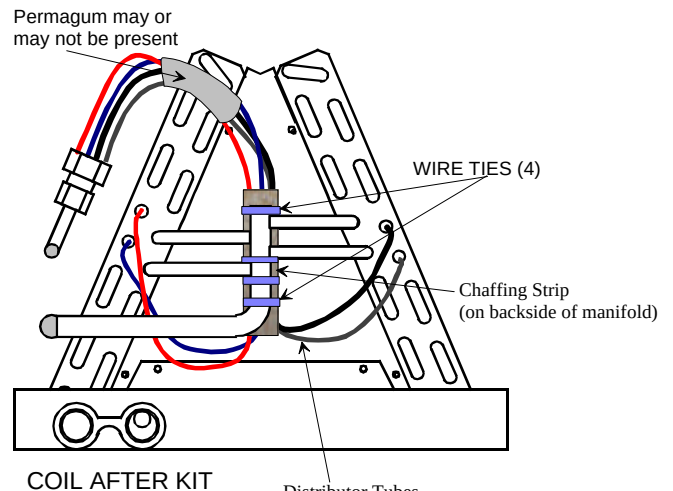

Figure 1
3. Place chaffing strip on backside of manifold (between manifold and coil). See figure 1.
4. Bundle distributor tubes together and route along the chaffing strip. Secure distributor tubes to chaffing strip and manifold with wire ties. One wire tie should be placed near the bottom of the manifold and one near the top of the manifold. See figure 1.
6. Remove the rubber based sealer from the packaging. Wrap the sealer around the distributor tubes at the point where the tubes pass the return bends. Ensure the sealer is between the distributor tubes and the return bends. Secure the distributor tubes to the return bends using an enclosed wire tie. The distributor tubes should not touch the return bends and the distributor tubes will be loose in the wire tie. See figure 1.